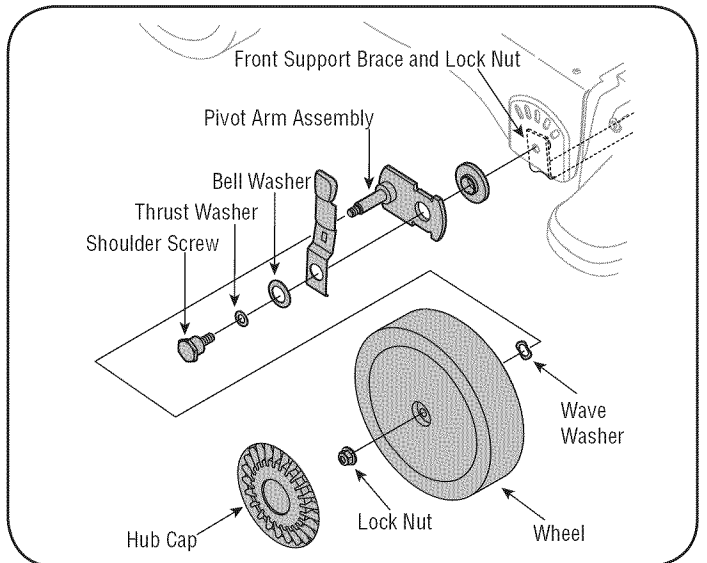

Figure 25
4. Remove the front hubcaps, flange lock nuts, front wheels, and wave washers that attach to the pivot arm assemblies. See Figure 25.